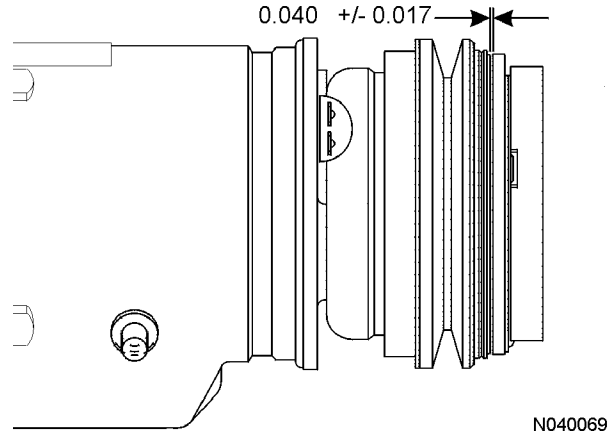

FIGURE 4-26. CLUTCH GAP
4. Press the clutch onto the compressor using drive plate installer (1). Continue to press the clutch plate until a 2 mm (0.08 in.) gap remains between the clutch friction surface and the pulley friction surface. Refer to Figure 4-26.